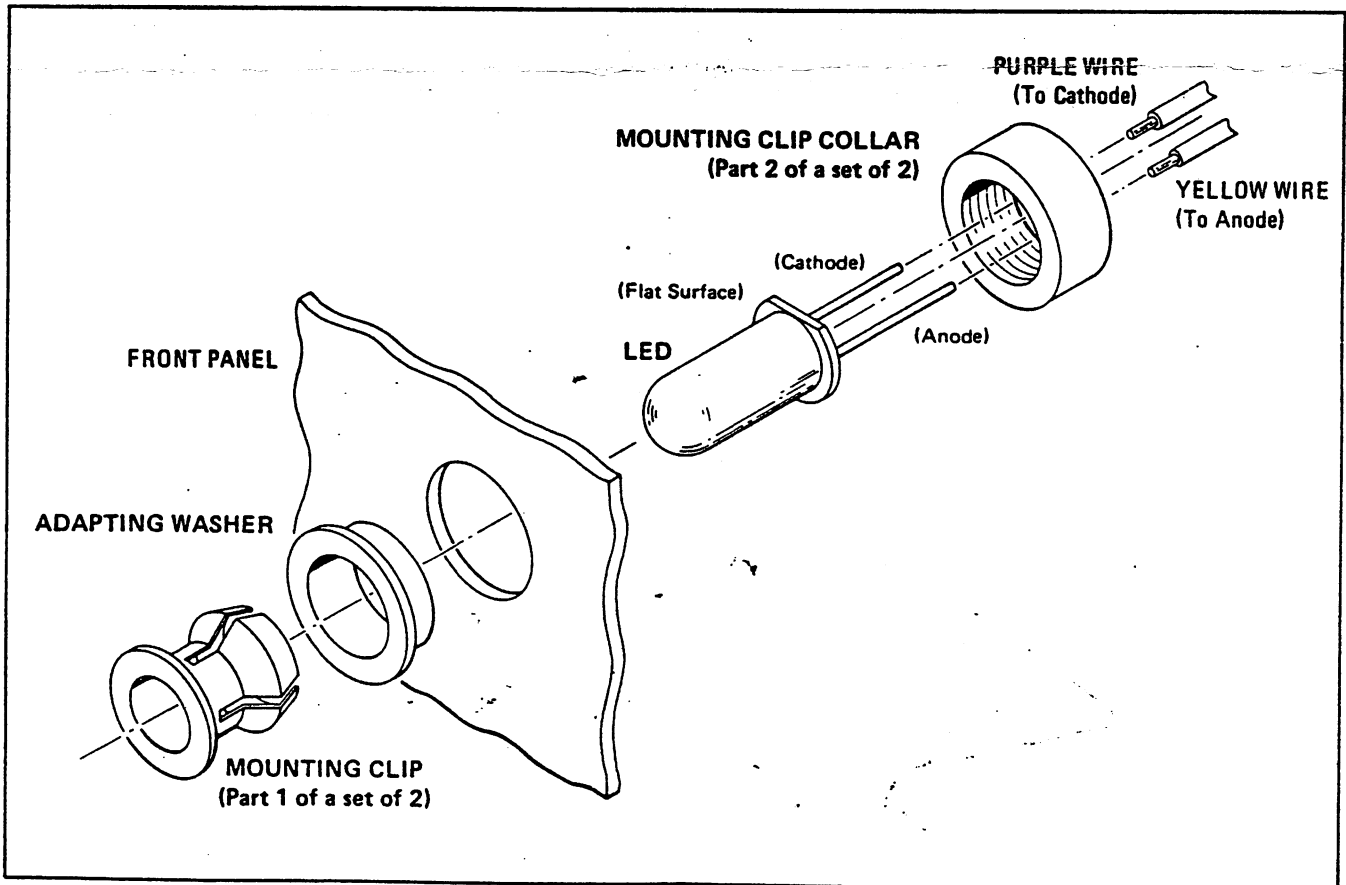

Figure 2. LED Modification Parts Diagram
5. Locate the lead protruding from the LED (supplied with the kit) nearest the flat surface molded into the package. This denotes the cathode, which must be negatively biased with respect to the anode for proper operation. (Refer to Figure 2.) Put a small crimp or bend in the cathode lead near its end for future identification. (This is necessary because later steps will hide the flat surface.)
6. Install the adapting washer (supplied with the kit) into the front panel hole from the front side, with its shoulder outward. Then install the larger half of the LED mounting clip set (supplied with the kit) through the adapting washer from the front. (Refer to Figure 2.)
7. Insert the LED into the mounting clip from the inside of the instrument until it snaps into place. Secure the LED by pushing the mounting clip collar over the mounting clip inside the instrument while bracing the LED from the front. (Refer to Figure 2.)